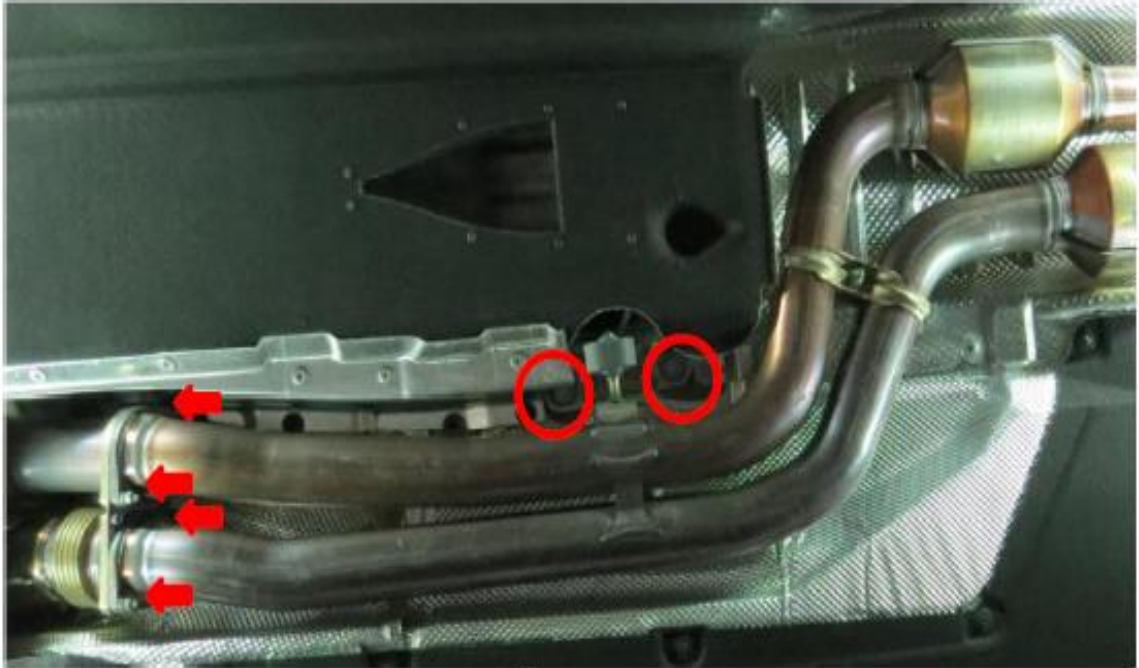

Figure 1-3
2. Use the 11mm wrench to remove the contact with the catalyst section. Figure 1-3 arrow
Use the E10 star wrench to remove the lifting lug. Figure 1-3 Red circle